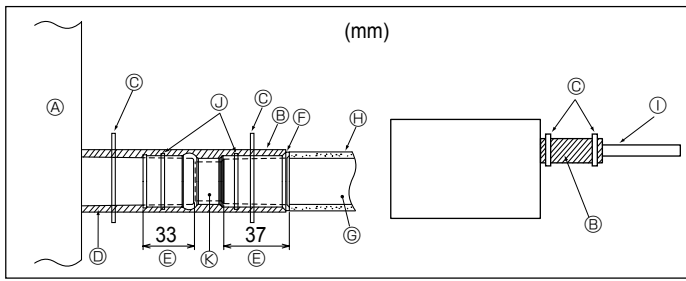

Fig. 3-5
1. Connect the drain socket (supplied with the unit) to the drain port. (Fig. 3-5)
[Fig.3-5]